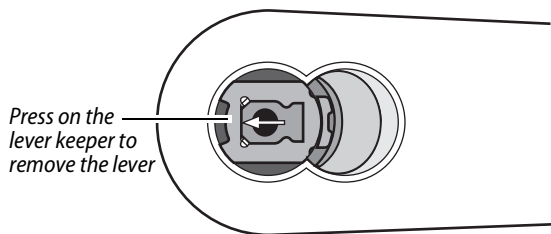

Figure 1 Removing the lever – BEST lever shown
- 2 Using a flat-blade screwdriver, remove the lever by pressing on the lever keeper as shown in Figure 1. If this is a standard 9K BEST lever, put to the side or discard.